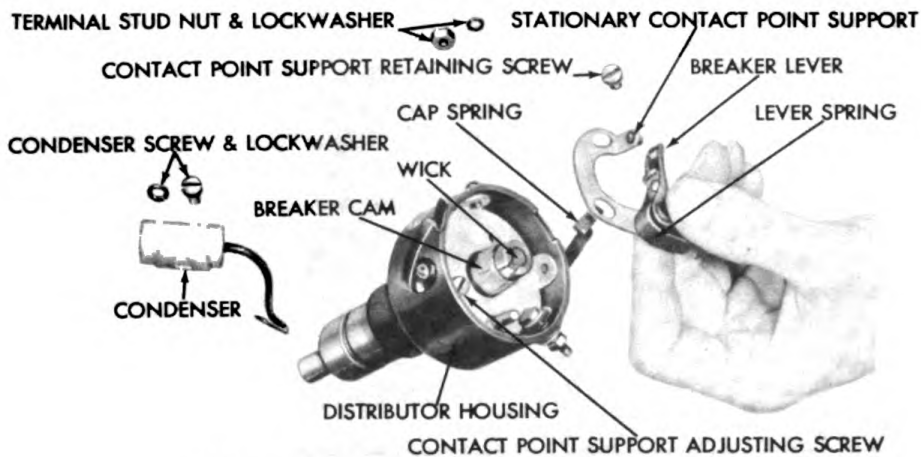

Figure 270. Removing Breaker Lever.
If the contacts are a grayish color and are not burned or pitted, they need not be replaced. Check with a wire feeler gauge and breaker contact gap. This gap should be .020" plus or minus .002". Readjust if necessary. See figure 270. After adjusting, retighten the locknut. Then recheck the gap. Check the contact point alignment. The contacts should be aligned so as to make contact near the center of the contact surfaces. Bend the stationary contact bracket to secure proper alignment. Then recheck the maximum gap as just given above.
- b. Lift off breaker lever by loosening terminal nut slightly, compress breaker lever spring between thumb and forefingers and lift breaker lever off hinge post. Figure 270.